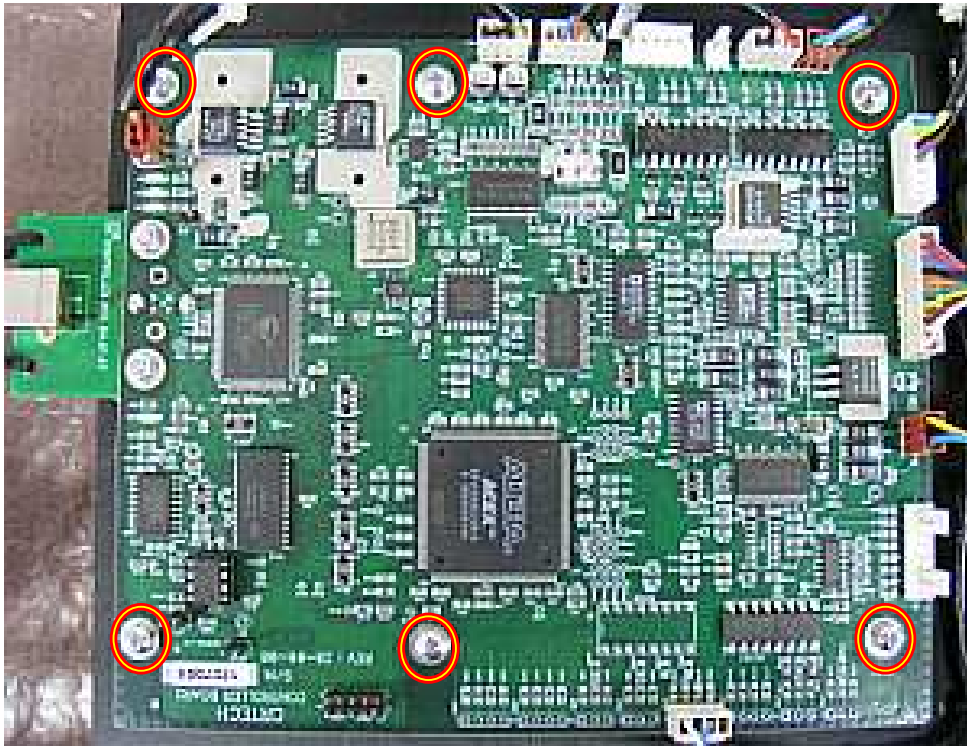

Figure 11-1
- Release six M3 screws (Figure 11-1).